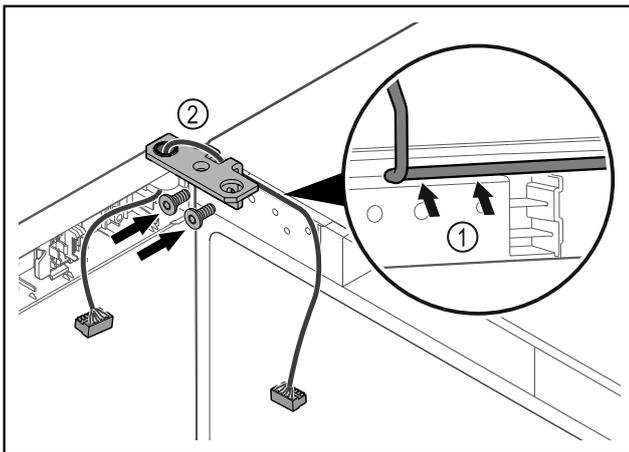

Fig. 35
- Feed the cable through the recess in the hinge and lay it carefully Fig. 35 (1).
- Screw on the hinge Fig. 35 (2).